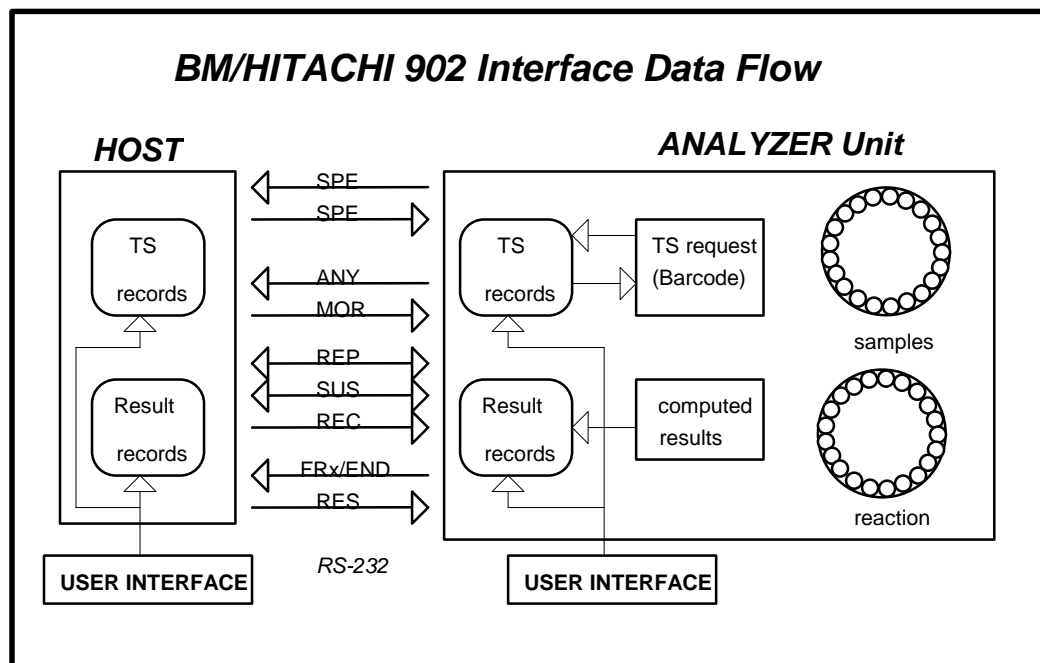

Figure 1: BM/HITACHI 902 Interface data flow
Figure 1 gives an general idea of the 902 interface data flow between the analyzer, the analyzer unit (AU) and the host system. More detailed description will be found in this document.